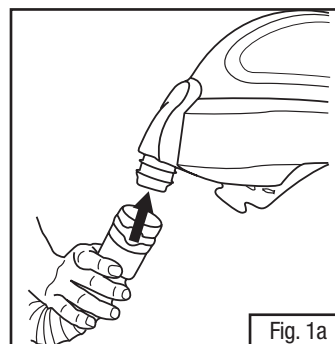

Fig. 1a
- Connect approved breathing tubes by pushing the QRS (Quick Release Swivel) end of the breathing tube (i.e. end with the blue pinch clip) onto the air inlet of the headgear (Fig. 1a). The breathing tube should make an audible “click” when attached. Verify breathing tube is secured to the headgear by pulling on the connection. If it is not securely connected, detach and reconnect.